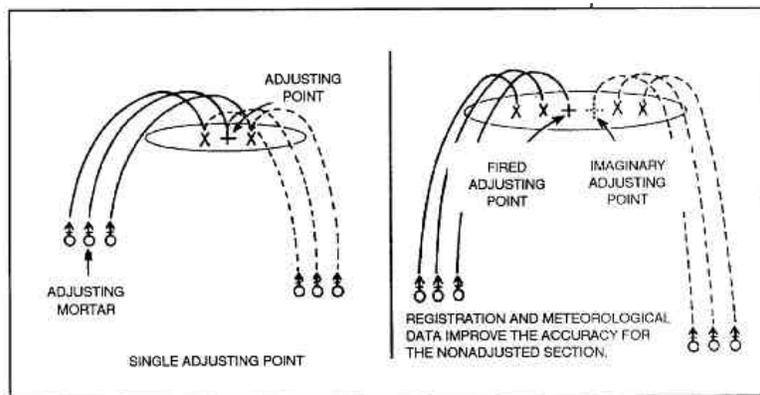

Figure 6-2. Six-mortar standard sheaf.
a. Massing fires requires the FDCs to compute data for each section on the same target. If speed is essential in engaging a certain target, the FDCs compute the fires of both sections on a single adjusting point. This produces a smaller, more concentrated sheaf in the target area. If a six-round, standard sheaf is required, the controlling FDC adjusts with the innermost mortar of one section onto the adjusting point and computes FFE data (Figure 6-2). The other section FDC plots an imaginary adjusting point at a distance of the bursting diameter, left or right of the fired adjusting point, and computes FFE data based on the imaginary adjusting point. Registration and meteorological data improve the accuracy for the nonadjusted section.